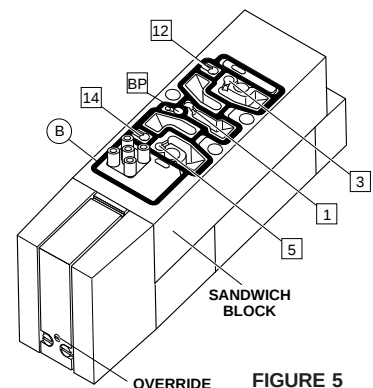

FIGURE 5
- The bottom surface of the sandwich block has several holes which receive the small plugs. This is accessed by loosening the three main body mounting screws (item A) with a 3 mm hex wrench and removing the valve from its base. These holes have identification alongside as shown in Figure 5 and plugs must be located in the holes as described in Table 1. (See the two identification methods located in Table 1.)